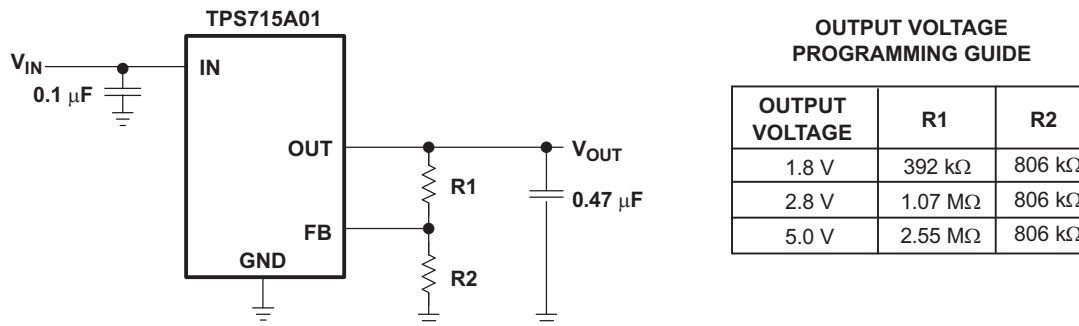

Figure 15. TPS715A01 Adjustable LDO Regulator Programming
The output voltage of the TPS715A01 adjustable regulator is programmed using an external resistor divider as shown in Figure 15. The output voltage is calculated using Equation 3:
- Updated Figure 15 8